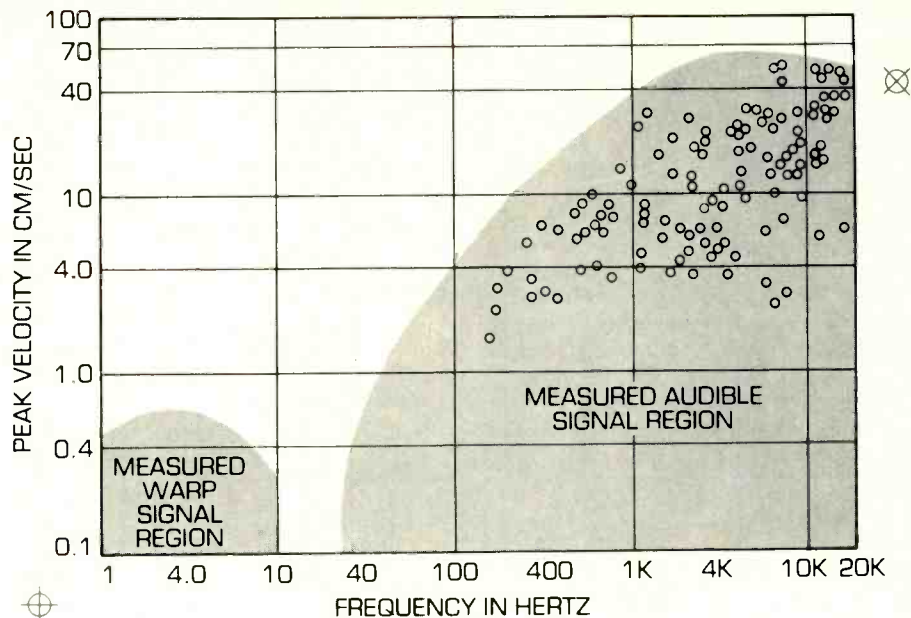
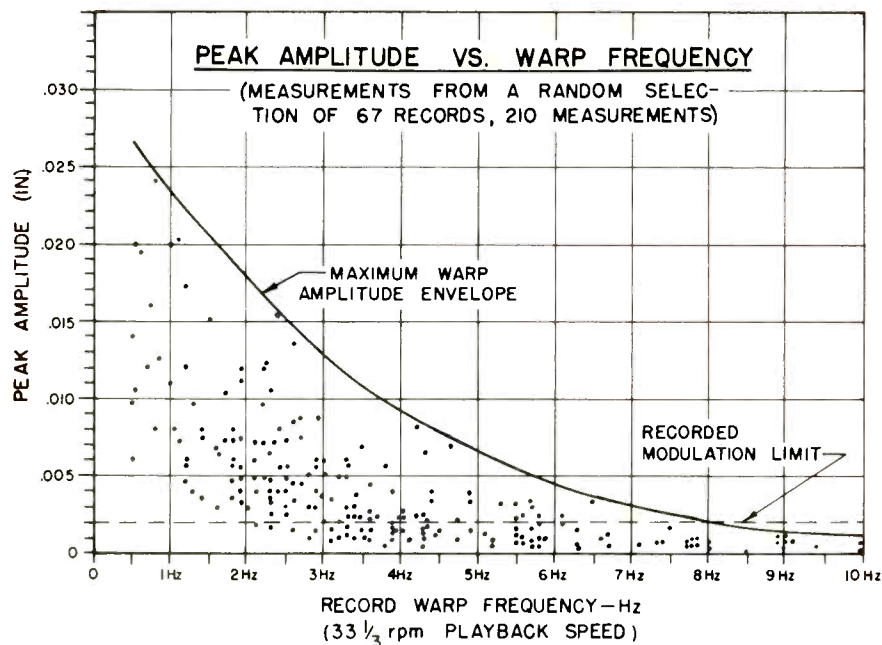

Fig. 3—Signals on records.
Fig. 4—Maximum warp envelope.
The article, "Trackability," *Audio*, Nov. and Dec., 1966, first showed the distribution of modulation levels vs. frequency on a large selection of commercial discs. That data has been reviewed (Fig. 3), and measurements indicate that the distribution of high-amplitude modulation remains similar to that which was originally described. If anything, there is a greater tendency to produce high-level modulation in the middle and higher frequencies; thus, the problem of tracking this high-level modulation has most certainly not disappeared and, if anything, has become more severe. In addition, the listener has become more discriminating, and the resolution of tracking problems has taken on more significance.
What Constitutes Acceptable Trackability? The question of what constitutes "good" trackability cannot be answered in precise terms. At present, trackability sufficient to track the signals shown in Fig. 3 is needed to guarantee proper playback on all records. One must consider the fact that while Fig. 3 shows the maximum velocity of a signal at any given frequency, program material generally includes many frequencies simultaneously. Thus, the stylus must be able to track combinations of frequencies which may add to a tracking requirement greater than any individual frequency one might expect from the figure. The cartridge should offer a sufficient safety factor to handle the worst possible set of conditions.
A detailed study of record warp was described by Happ and Karlov (9). Figure 4 taken from that article shows the distribution of warp amplitude vs. frequency for a large, random selection of records. (Note that Fig. 4 plots amplitude vs. frequency as compared to Fig. 3 which shows velocity vs. frequency.) Since that study was made in 1972, we have reviewed records regu-
The most common source of excitation, however, is that of record warps. Figure 3 shows that warps occur in a broad low-frequency spectrum extending from 0.5 to 10 Hz, with maximum velocity around 3 or 4 Hz. This excitation is the major culprit, and it operates principally in the vertical direction. The combination of the super-compliant pickup and many arms yields a resonance right at the peak frequency of the warp excitation, and is a prescription for trouble. Figure 3 also shows that warp occurrence is minimal in the frequency range from 10 to 15 Hz, between the warp frequencies and the program material. A resonance located in this region has the least chance of excitation from the warp or program material. Analysis (9) showed that there is a general disparity between the highest compliance pickups on the market and the arms available to use them.